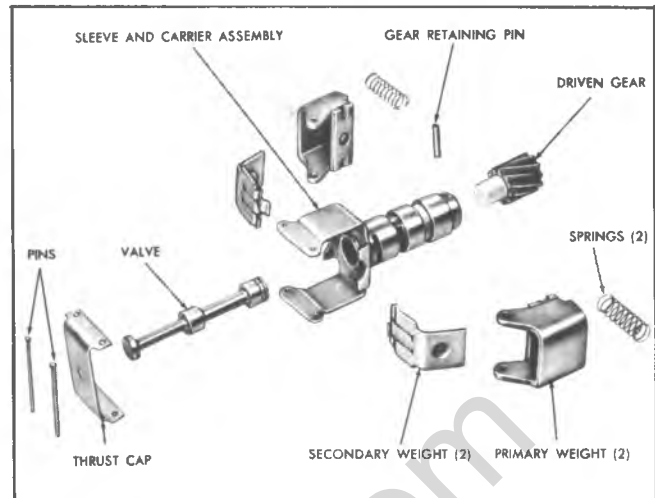

Fig. 48T-Governor--Exploded
1. Cut off one end of each governor weight pin and remove pins, governor thrust cap, governor weights, and springs. Governor weights are interchangeable from side to side and need not be identified. (Fig. 48T).